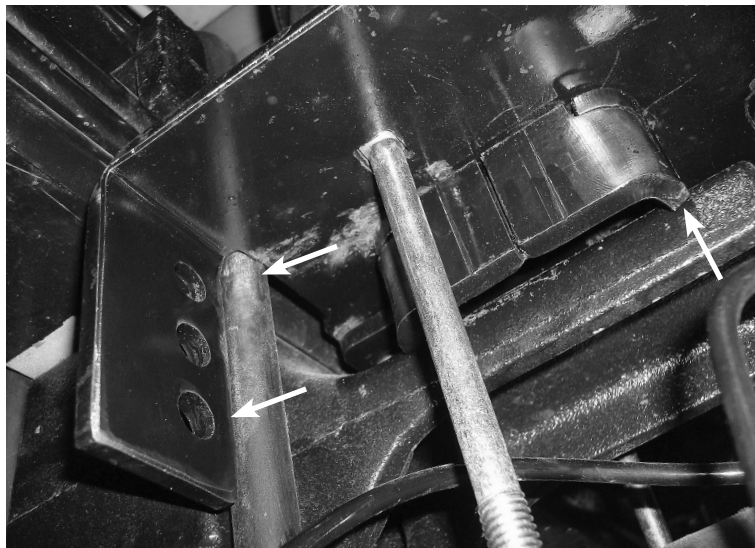

Fig. 17
1. With the vehicle supported by safety stands, drop the axle or raise the body so that the assemblies can be put into position in between the axle and frame. Set the driver's (left) side and passenger's (right) side assemblies into position so that the lower bracket cup nests on the jounce bumper strike plate. Push the lower bracket so that it is flush against the leaf spring stack and both flanges on the lower bracket are locked around the stock U-bolts (Fig. 17).